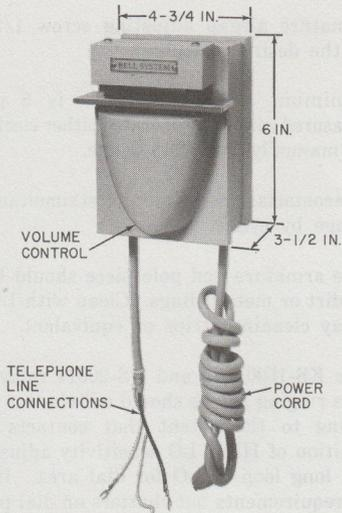

Fig. 18—KS-8229 Chime (MD)
3.13 Signals KS-8229 (MD) (Fig. 18):
C. KS-8229 (MD) Signal Chime
5.06 The volume of the KS-8229 (MD) signal chime (Fig. 18) may be adjusted by a screw. No other adjustment should be made. Should the plunger stick in its guide, remove plunger and clean with mineral spirits. If this does not correct operation, replace signal device.